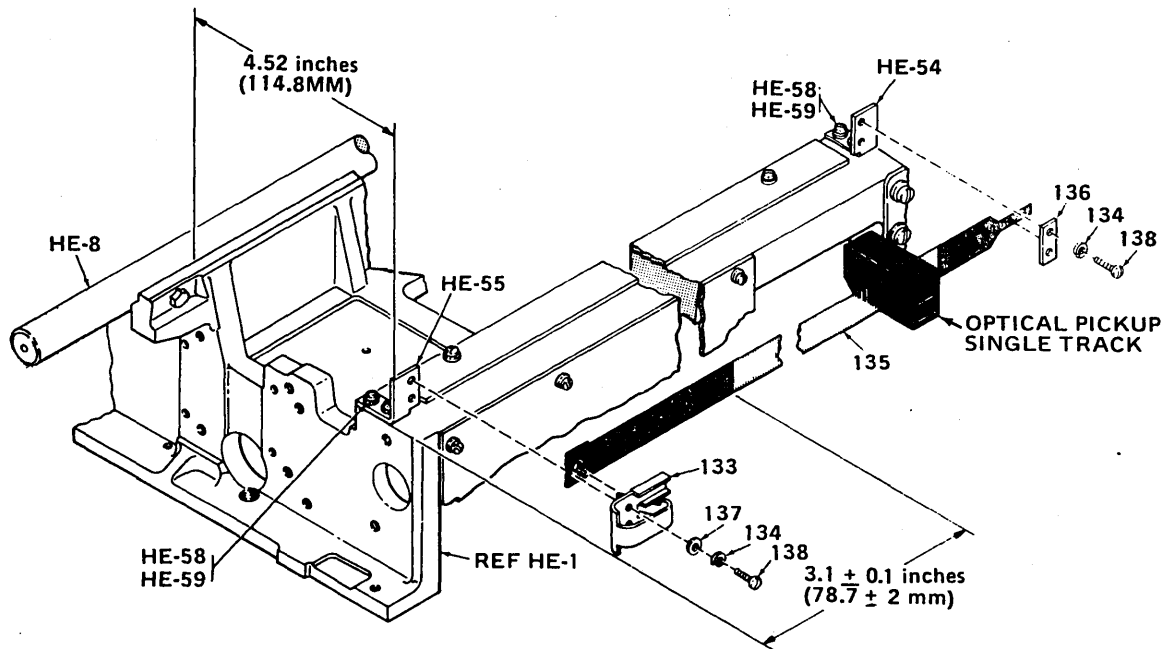

Figure 5-6. FLEXIBLE TIMING FENCE MOUNTING, SERIES 101
3. Flexible Timing Fence (Fig. 8-8/135). The timing fence is used to interrupt light through vertical slots for the optical pickup, single track head (Fig. 8-12/24 and Fig. 5-6).
- A. The following removable parts are not described in a disassembly/assembly order, but their locations are on the frame (HE) drawing with their key numbers.
- B. FLEXIBLE TIMING FENCE 63002440-1001 (FIG. 5-6)
1. Carefully remove video amplifier ass'y 63002668-4001 (Section 7) with attached optical pick-up head 63002634-5003 (Fig. 5-6) from timing fence (135) by removing screws, washers (Fig. 8-3/55, 56, 57) holding the mounting bracket (See Fig. 8-3/50) to the carriage mechanism.
2. Loosen screws, washers (138, 134) holding right-side clamp (136) to bracket (HE-54) on right side of printer frame (HE-1).
3. Unhook left side of flexible timing fence and remove from projection at back of clasp (133). Set timing fence aside.
4. To remove left-side clasp (133), remove two screws, washers (138, 134, 137) from left-side bracket (HE-55).
5. To remove right-side clamp (136), remove two screws, washers (138, 134) from right bracket (HE-54).
A. POSITIONING OF SUSPENDED TIMING FENCE (FLEXIBLE) FOR FIRST CHARACTER PRINTOUT (FIGURE 5-6)
1. Loosen screws, washers (138, 134) on right-side clamp (136) and pull right end of tab of fence to the right so that the first window of fence is located 3.1 ± 0.1 inches (78.7 ± 2 mm) from edge of printer casting (See illustration, Fig. 5-6). (Note, that this dimension allows for a 5/8-inch nominal printout margin on the printing form).
2. When correct dimension has been applied, secure fence by tightening mounting hardware on the clamp (136).
B. ESTABLISHING FIXED PARALLELISM FOR SUSPENDED TIMING FENCE (FIG. 5-6)
WHEN INSTALLING AND ADJUSTING VIDEO AMPLIFIER ASS'Y WITH MOUNTED OPTICAL HOUSING (FIG. 5-6) WITH RESPECT TO TIMING FENCE, AVOID SCRATCHING OF EMULSION ON TIMING FENCE (SIDE MARKED, "RIGHT").